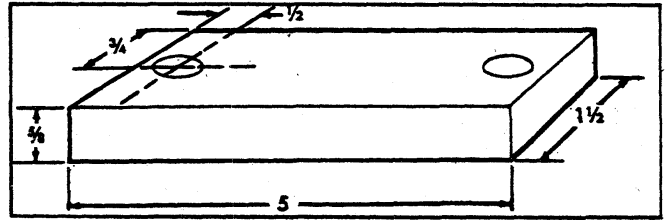

Fig. 67—Flaring Tool Back-Up Plate (Corvette)
7. Out of 5/8" thick steel plate 1-1/2" wide make flaring tool support to the dimensions shown in Figure 67 and drill clearance holes as shown for 2 - 1/2" bolts.